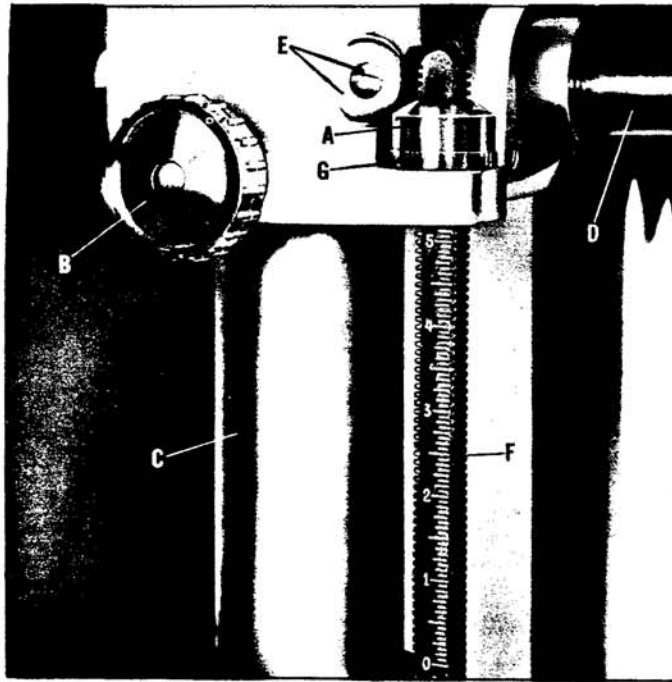

Fig. 7
1. Remove the depth stop nut (G) and locking sleeve (A) Fig. 7, and make sure the quill locking handle (B) is loose.
2. Rotate the pilot wheel and lower the quill (C) Fig. 7, until the rack on the back of the quill disengages with the pinion shaft (D). A special design is incorporated into the quill to prevent it from dropping out of the head casting.
3. When the quill (C) Fig. 7, is lowered as far as possible, turn the pilot wheel counterclockwise to increase or clockwise to decrease the return spring tension.
4. When the desired tension is obtained push up the quill (C) until it engages with the pinion shaft (D) Fig. 7. The spring tension will then return the quill to the up position.
5. Replace the depth stop nut (G) and locking sleeve (A) Fig. 7.
The quill can be locked at any desired point in its travel, by tightening the quill locking handle (B) Fig. 7. This is an especially desirable feature for set-up of tooling for production type operations.
1. Make sure the quill locking handle (B) Fig. 7, is loose.
2. Remove two screws and washers (E) Fig. 7. Only one of the screws and washers (E) can be seen in Fig. 7. The other screw and washer is located on the left front side of the head casting.
3. Tighten the two quill adjusting screws which are located directly underneath the two screws and washers (E) Fig. 7. It is not necessary to tighten these screws too much.
5. After proper adjustment has been made, replace screws and washers (E) Fig. 7.
When drilling one or two holes to a predetermined depth, the calibrations on the face of the depth stop rod (F) Fig. 7, can be used.
1. Raise the locking sleeve (A) Fig. 7, and turn the micro-nut (G) to the desired position on the stop rod (F).
2. Lower the locking sleeve (A) so it will engage micro-nut (G) Fig. 7. Lock sleeve (A) in place with thumb screw if drill press is mounted in other than vertical position. When the drill press is mounted with the chuck pointing "up", the locking sleeve (A) and micro-nut (G) Fig. 7, should be reversed on the stop rod (F).
3. When locking sleeve (A) is in place on the micro-nut (G) Fig. 7, the micro-nut cannot be turned. When a change in depth is required, the locking sleeve (A) must be raised, and while it is raised, turn the micro-nut (G) the necessary calibration marks. Each mark represents .002". Then lower the locking sleeve (A).